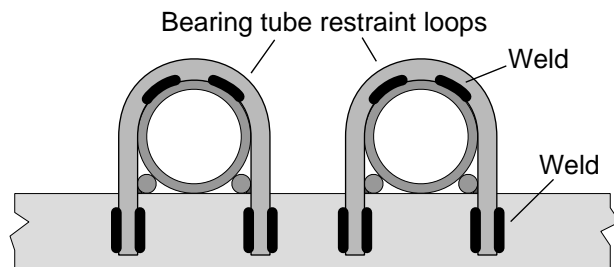

Figure 11: position of bearing tubes and chocks.
- 8) Fix the axle bearing tubes with loops of 8 to 12mm round bar as shown in Figure 1 and Figure 11. Do not weld the